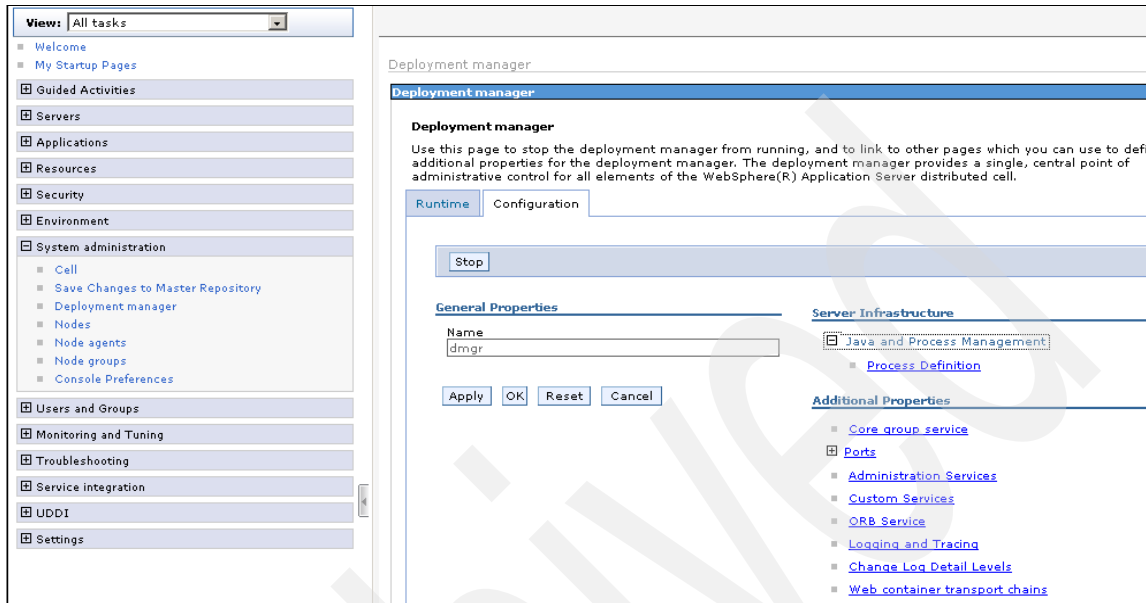

Figure A-7 Java and Process Management
7. From the Server Infrastructure group, expand the **Java and Process Management** link. Click **Process Definition** (see Figure A-7).